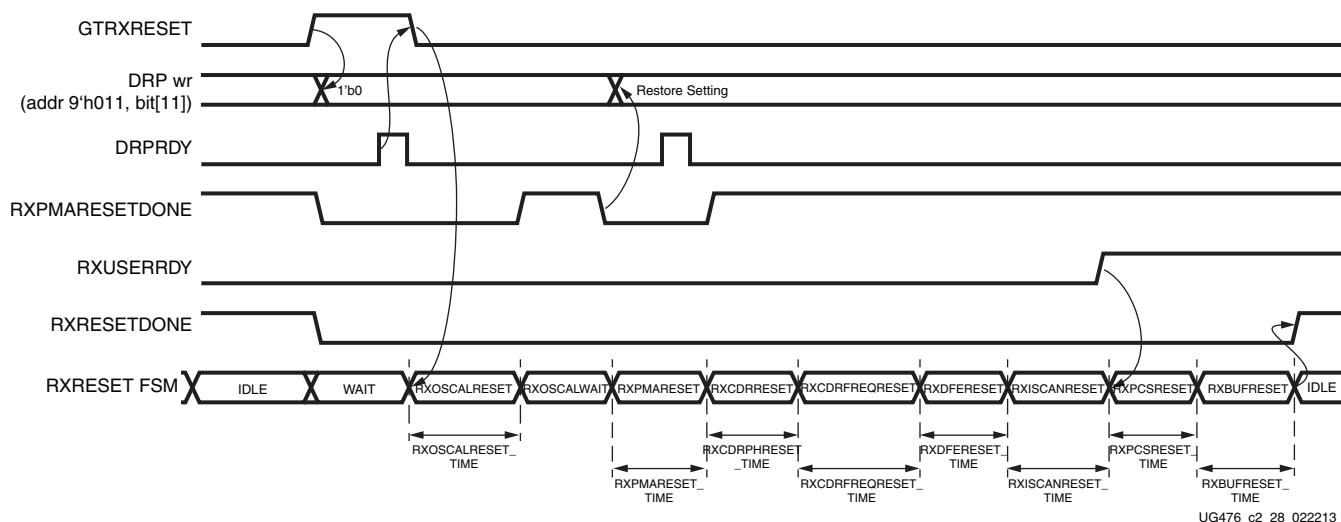

Figure 2-24: GTH Receiver Reset for GTRXRESET
4. The steps for issuing GTRXRESET are illustrated in Figure 2-24.
Notes relevant to Figure 2-24:
2. The sequence of events in Figure 2-24 is not drawn to scale.